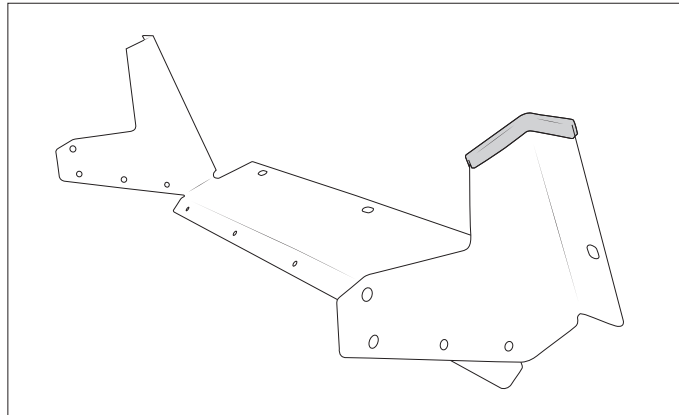

Figure 44
1. Install edge guard onto the left side of the intercooler shroud to protect winch wiring (fig. 44).